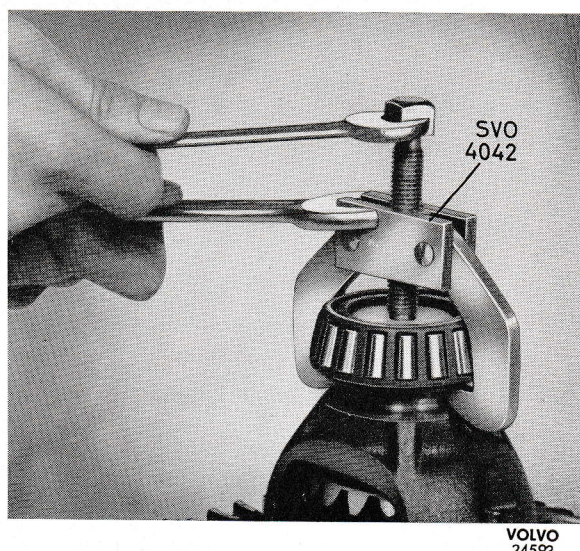

Fig. 27. Removing the differential carrier bearing.
3. Pull off the differential carrier bearings (13, 31) with puller SVO 4042, see Fig. 27. Do not lose the shims (14, 30).